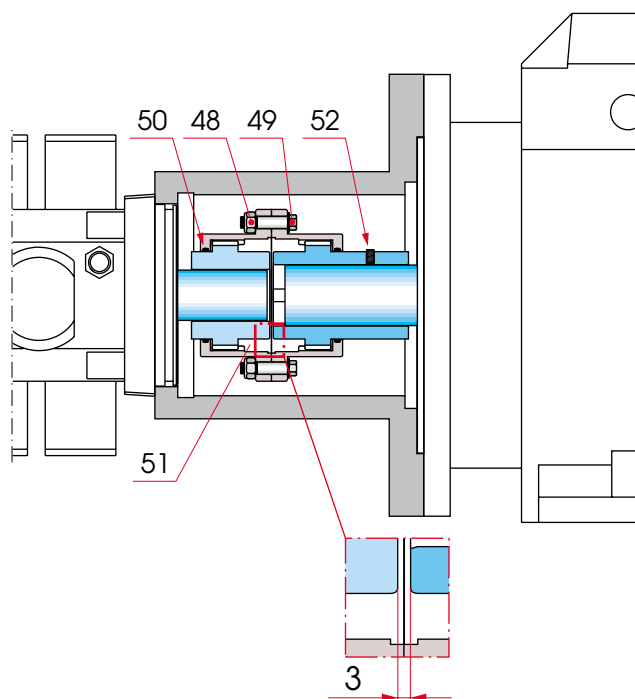

Fig 16-3
- 1** Disconnect the electrical cable connector (1) to the pressure regulating unit, unscrew the pipe fittings for feed pipe, high pressure pipe and drain pipe.
- 2** Loosen nuts (48) and remove screws (49), see Fig 16-3.
14 Mount the pilot pump to the connection flange for the electric motor. Adjust the clearance (3 ± 0.5 mm) between coupling halves by opening the set screw (52) and moving the coupling half on the shaft, see Fig 16-3.